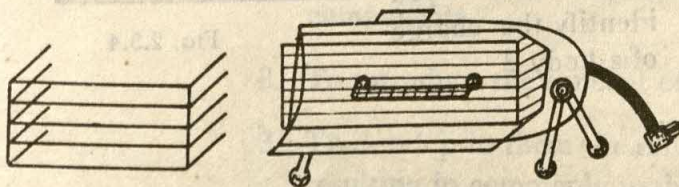

FIG. 2.4.20
24. Bend 5 cm. length of wires on either side at right angles Fig. 2.4.20. Fix this guarding cage to the front of the room-heater in such a way that the 5 cm long bent wire on either side rests on one side or the other side of side cover. The room-heater is ready for use (Fig. 2.4.21)